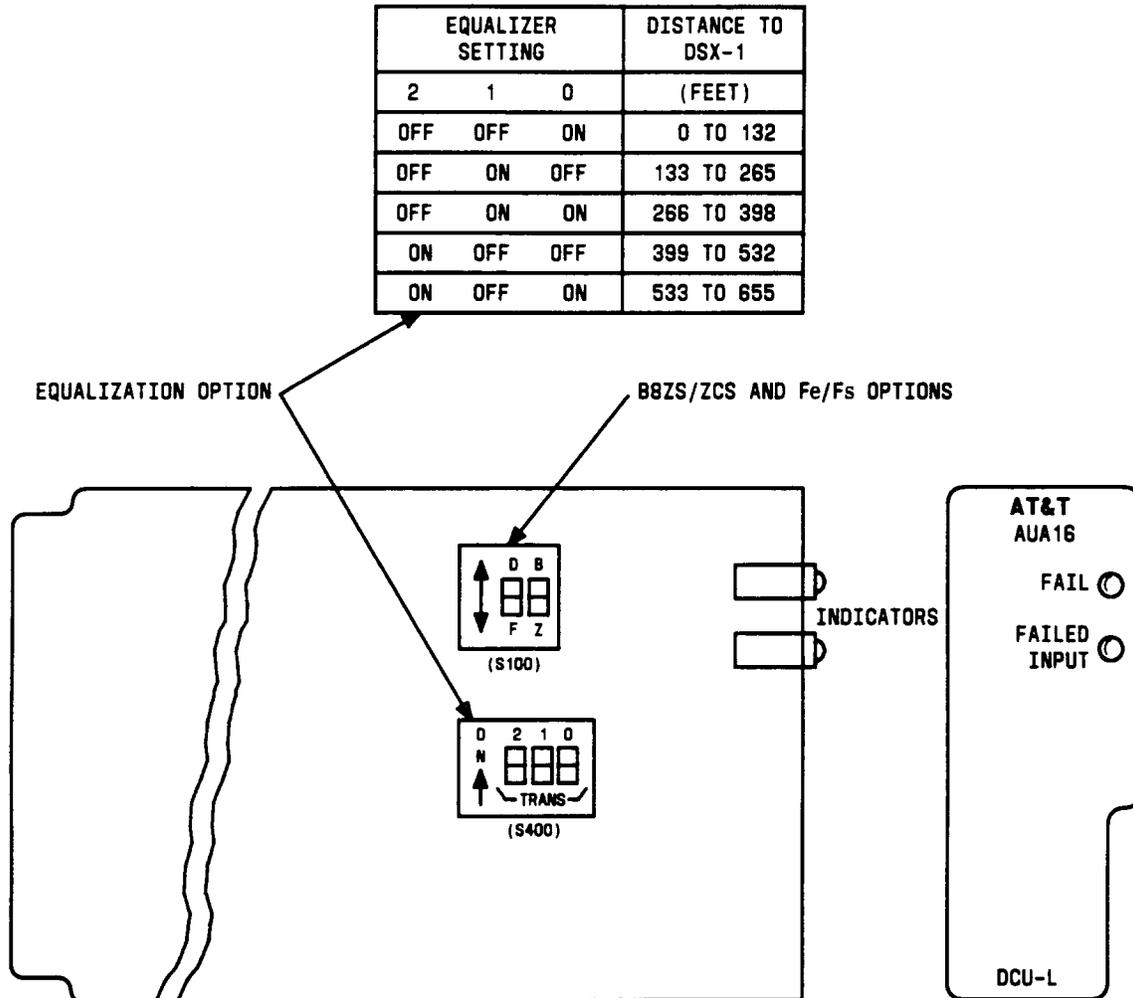

Fig. 1—AUA16 DCU-L Option Switches
2. On DCU-L option switch S100 (FIG. 1), set option switch D/F to the D position and option switch B/Z to the Z position.
3. On DCU-L option switch S400 (FIG. 1), set switches 0, 1, and 2 to agree with facility record.
Obtain 197A BATTERY LOAD TEST SET (197A) and place near batteries to be tested (FIG. 1).